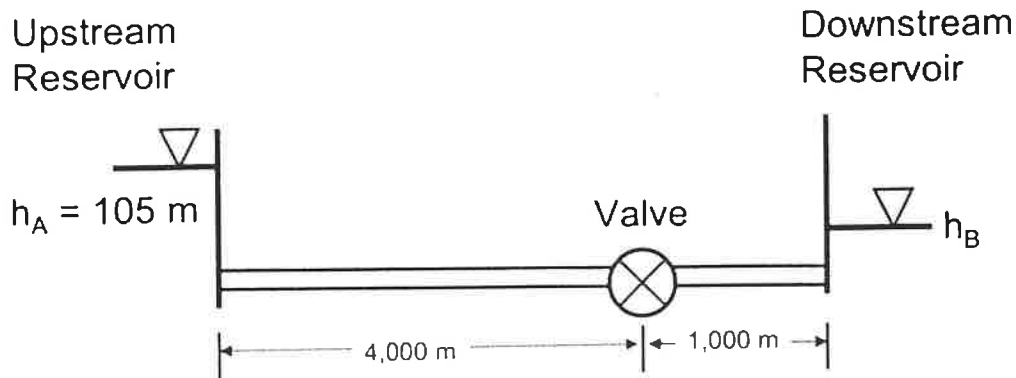

Figure 1. Transmission pipeline.
- /20 3. A transmission pipeline that conveys water from an upstream reservoir to a downstream reservoir is indicated in Figure 1. The transmission main has a valve along its length that controls the discharge in the system. The discharge through the valve is computed with the valve equation below. The pipeline has a length of 5,000 m, a Hazen-Williams 'C' factor of 100, and an inner diameter of 1,167 mm. The upstream reservoir has a water level of 105 m. The valve discharge constant is $E_s = 0.35 \text{ m}^{5/2}/\text{s}$.